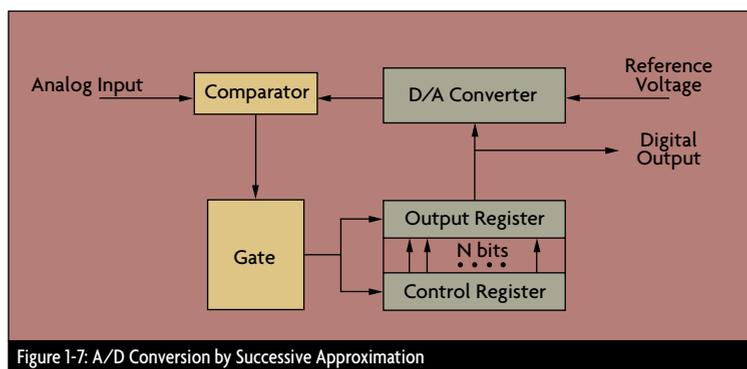

Figure 1-7: A/D Conversion by Successive Approximation
- **Successive approximation:** The most common A/D converter design used for general industrial and laboratory applications is successive approximation (Figure 1-7). This design offers an effective compromise among resolution, speed, and cost. In this type of design, an internal digital-to-analog (D/A) converter and a single comparator—essentially a circuit that determines which of two voltages is higher—are used to narrow in on the unknown voltage by turning bits in the D/A converter on until the voltages match to within the least significant bit. Raw sampling speed for successive approximation converters is in the 50 kHz to 1 MHz range.